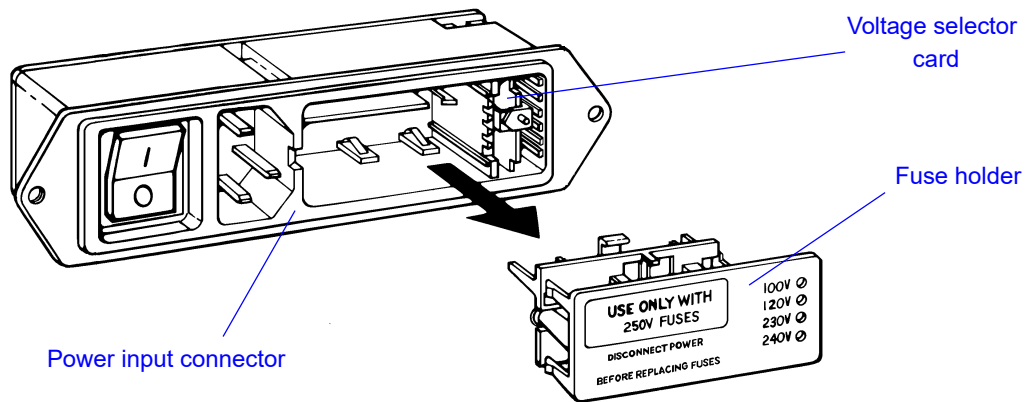

Figure 4-4. Removing the Fuse Holder
3. Remove the fuse holder from the power input connector, as shown in Figure 4-4.